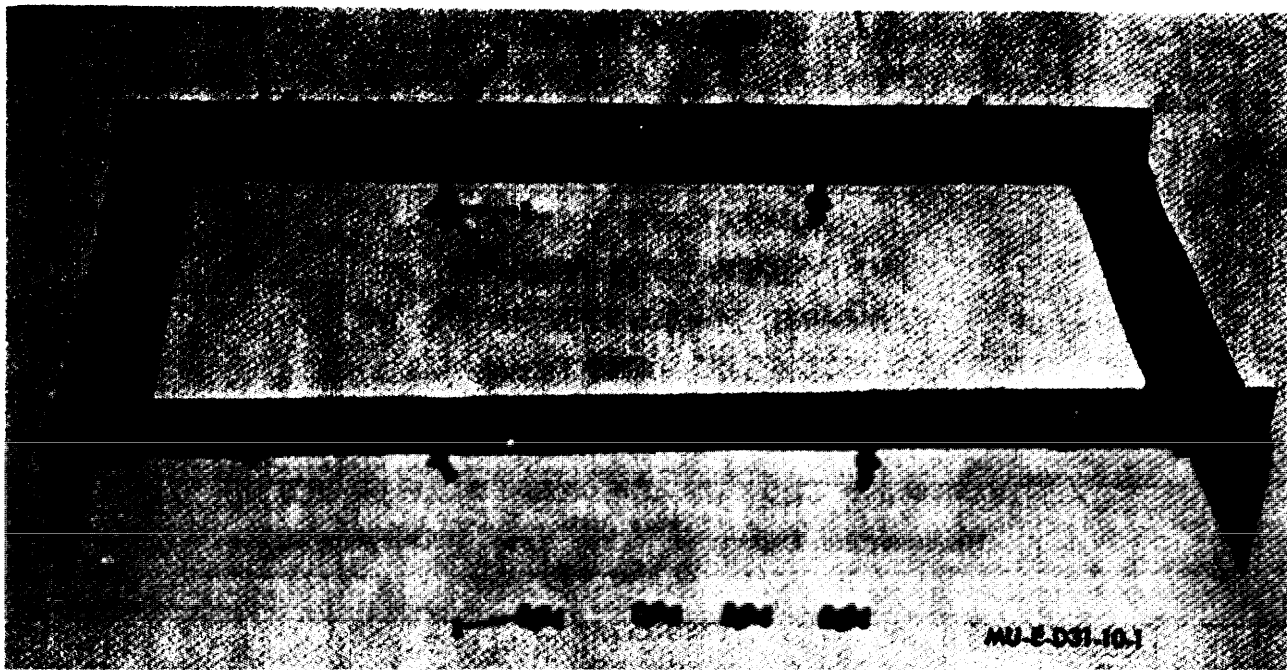
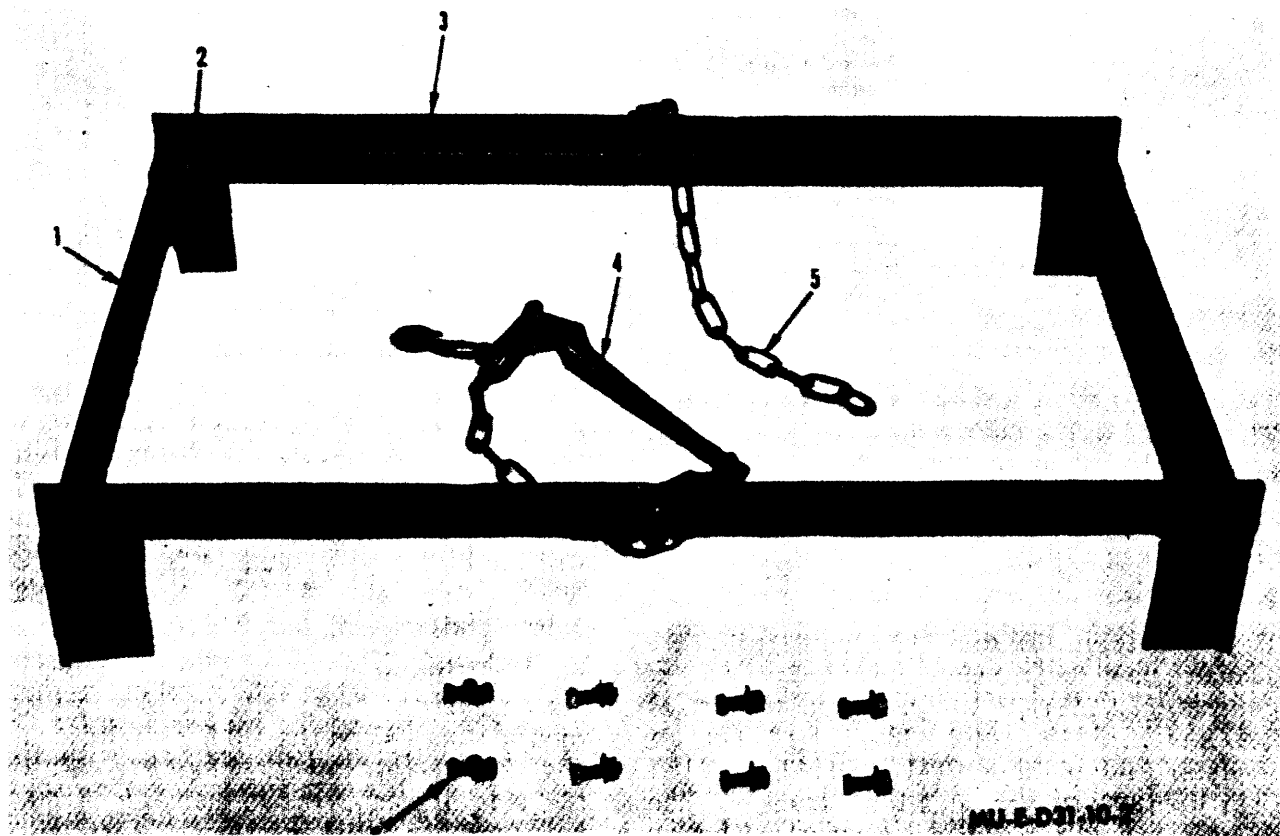
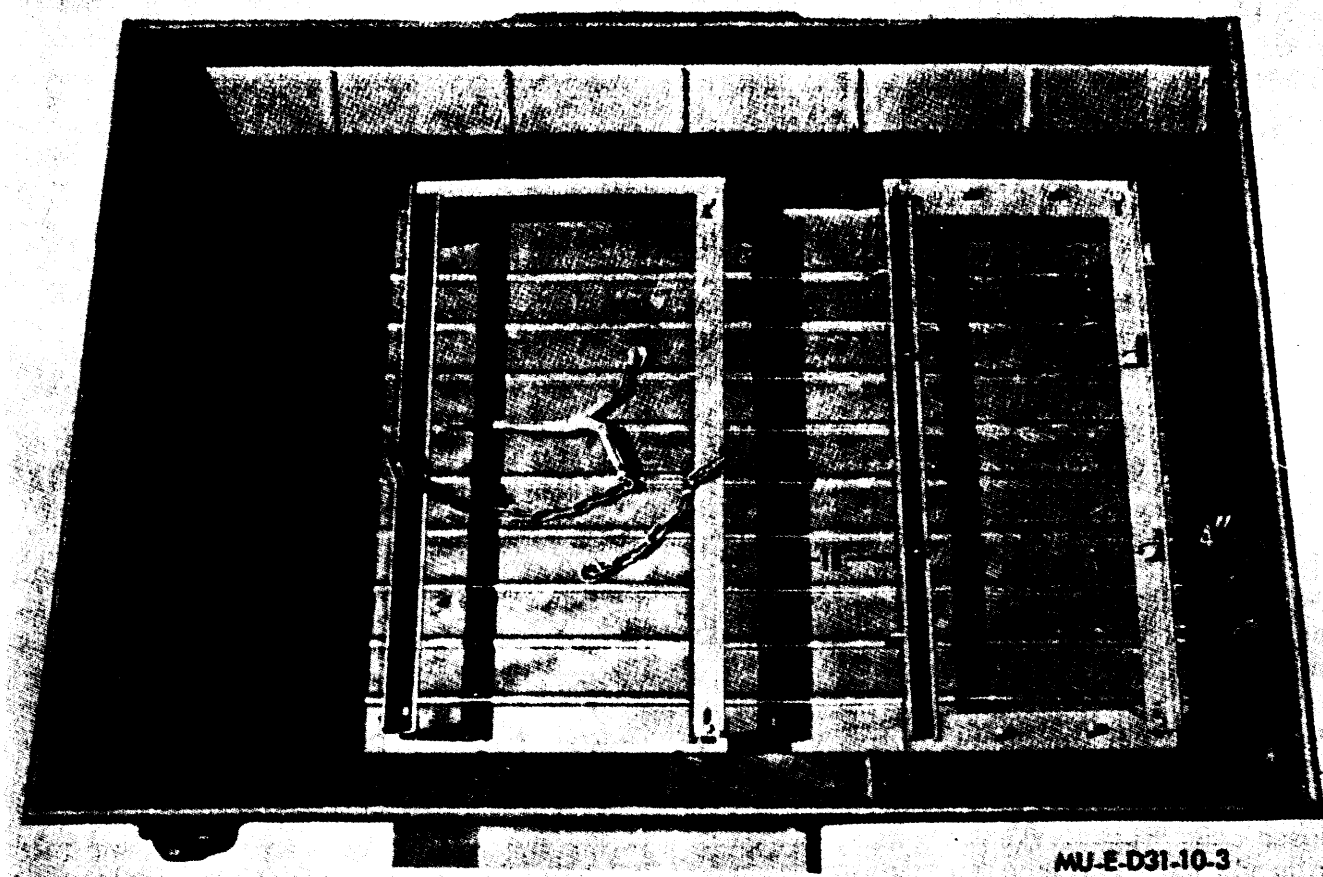

Figure 1. M2 smoke generator mount.
Figure 2. M3 fog oil drum mount.
Figure 3. M2 and M3 mounts installed in 1/4-ton trailer
a. General. The M2 smoke generator mount (fig. 1) and the M3 fog oil drum mount (fig. 2) are rectangular frames, consisting of two side angles and two end angles that are held together with capscrews. Adjustment slots in the end and side angles are used to lengthen or shorten the mounts.
b. *M2 Smoke Generator Mount.* The M2 smoke generator mount consists of a frame assembly, four hook bolts, and four spacers. The frame assembly is made up of four angles bolted together at the corners. A hook bolt assembly (5, fig. 1) consists of a bent bolt, split metal tubing welded to the inside of the hook, and attaching hardware. A spacer (2) consists of a capscREW, bushing, lockwasher, and nut. Two hook bolts are attached to each side angle (4) and secure the smoke generator to the M2 mount. Two spacers are attached to each end angle (1) and are used to help position the smoke generator on the mount. The M2 mount is approximately 37½ inches long and 17½ inches wide, and 7 inches high when not expanded.
Latest versions of the M2 smoke generator mount do not have spacers (2, fig. 1) or holes for their installation.
b. M2 Smoke Generator Mount. Four hook-bolt assemblies (5, fig. 1), two attached to each M2 mount side angle (4), secure a smoke generator to the mount. A hook-bolt assembly consists of a bent bolt that has a short length of split metal tubing welded to the inside of the hook. Four spacers (2), two installed on each M2 mount end angle, prevent a smoke generator from shifting within the mount. A spacer consists of a bushing and a 1-3/4-inch capscrew. The capscrew passes through the bushing and attaches it to the end angle. The M2 mount is approximately 37-1/2 inches long, 17-1/2 inches wide, and 7 inches high when not expanded.
c. M3 Fog Oil Drum Mount. A chain (5, fig. 2) and a load binder (4) are attached to the M3 mount side angles (3). The chain and load binder stretch over the center of a fog oil drum and secure the drum to the mount. The M3 mount is approximately 37-1/2 inches long, 22-1/2 inches long, 22-1/4 inches wide, and 7 inches high when not expanded.
(1) Fasten the two end angles (1, fig. 1) and two side angles (4) together at each of the four corners with 1-1/4-inch capscrews (3), flat washers, lockwashers, and nuts.
(2) Install two spacers (2) in each end angle in the holes provided. To install a spacer, pass the capscrew downward through the bushing and the end angle, slip a lockwasher over the end of the capscrew, and secure with a nut.
(3) Install two hook bolts (5) in each side angle in the holes provided. Insert the threaded end of the hook bolt down through the hole in the side angle. Slip a flat washer and then a lockwasher over the end of the hook bolt and secure with a wingnut (6). Turn the wingnut until it passes the hole in the hook bolt. Insert a cotter pin (7) through the hole and bend both ends of the pin back around the bolt.
(1) Fasten the two end angles (1, fig. 2) and two side angles (3) together at each of the four corners with 1-1/4-inch capscrews (2), flat washers, lock-washers, and nuts.
(2) Using the connecting links, fasten the chain (5) to the center lug of one side angle. Fasten the load binder (4) and chain to the center lug on the other side angle.
(3) Close the connecting links.
a. General. The M2 and M3 mounts must be positioned in the trailer as described in *b* and *c* below, so the weight will be distributed properly (fig. 3).
(1) Position the assembled mount cross-wise on the floor of the trailer, 4 inches from the front end (fig. 3). Loosen the four cap-screws that hold the angles together. Adjust the end angles so they are snug against the sides of the trailer.
(2) On the sides of the trailer, mark the two screw-hole locations in each end angle.
(3) Remove the mount and drill 7/16-